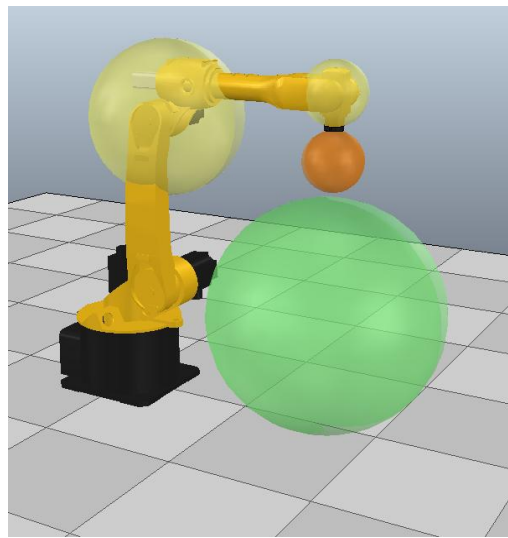

Figure 6-61 Contents of working condition in cylinder Safety Zone
Step2. After obtaining the center of ball and the radius of ball, you need to click <Applicate> button to write the calculated ball Safety Zone into the database, and then the setting of the ball Safety Zone will be completed. The contents of working condition after setting is shown in Figure 6-61.